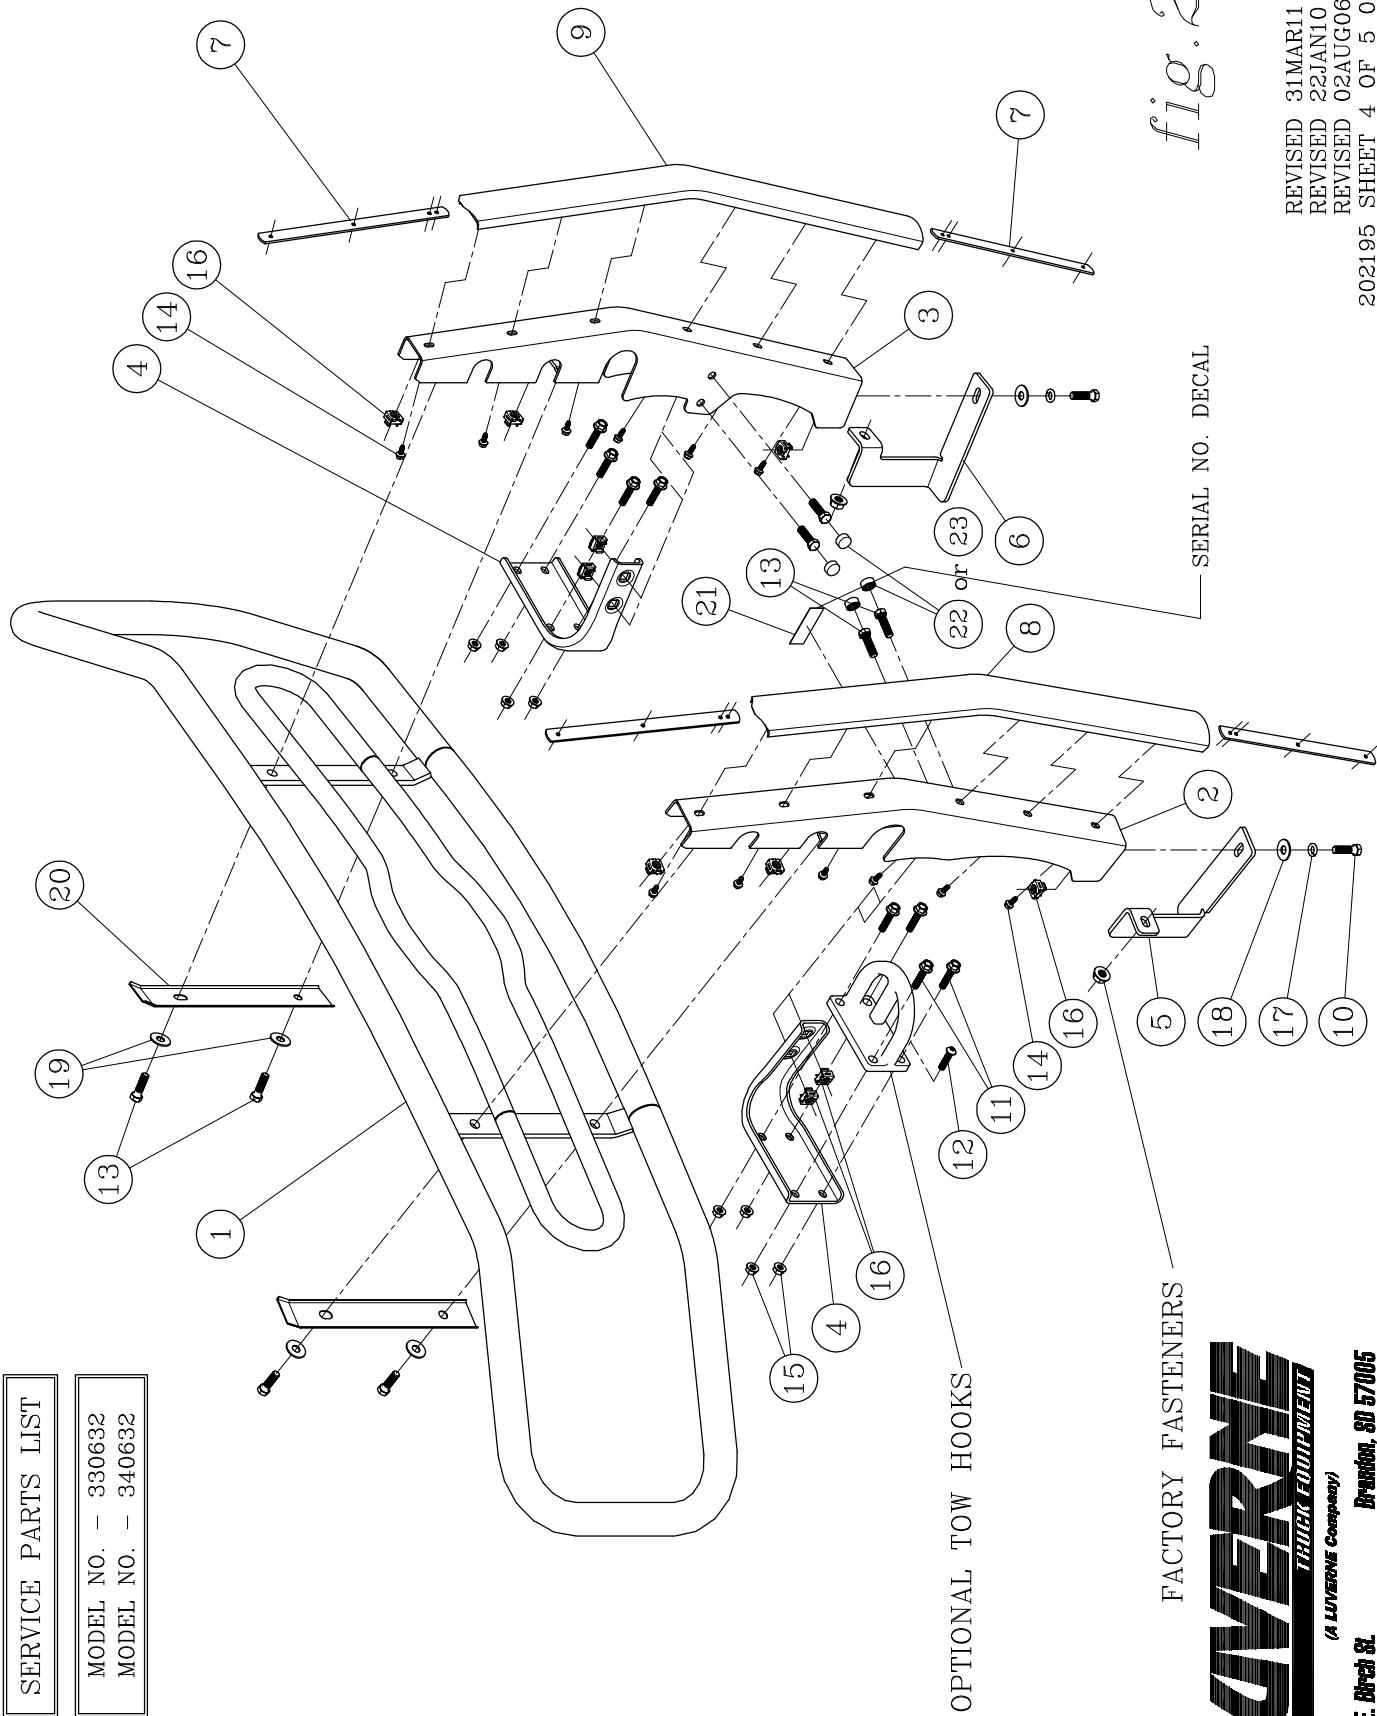

fig.2
3. INSTALL THE TOP MOUNTING BRACKETS (ITEM #4) TO THE PLATES ON THE END OF THE FRAME USING THE FOUR 3/8"-16 X 1-3/4" WASHER HEAD BOLTS (ITEM #11) AND THE FOUR 3/8"-16 FLANGE NUTS (ITEM #15). IF YOU HAVE TOW HOOKS, REINSTALL THEM AT THIS TIME AS SHOWN IN FIG. 2 & 3. HAND TIGHTEN ONLY AT THIS TIME. (NOTE: IF INSTALLING THIS GUARD ON AN SLT MODEL, YOU MAY NEED TO USE THE 3/8"-16 X 1-3/4" BUTTON HEAD SOCKET SCREWS (ITEM #12) IN THE LOWER OUTSIDE HOLES IN THE MOUNTING BRACKETS WHEN USED WITH TOW HOOKS.)